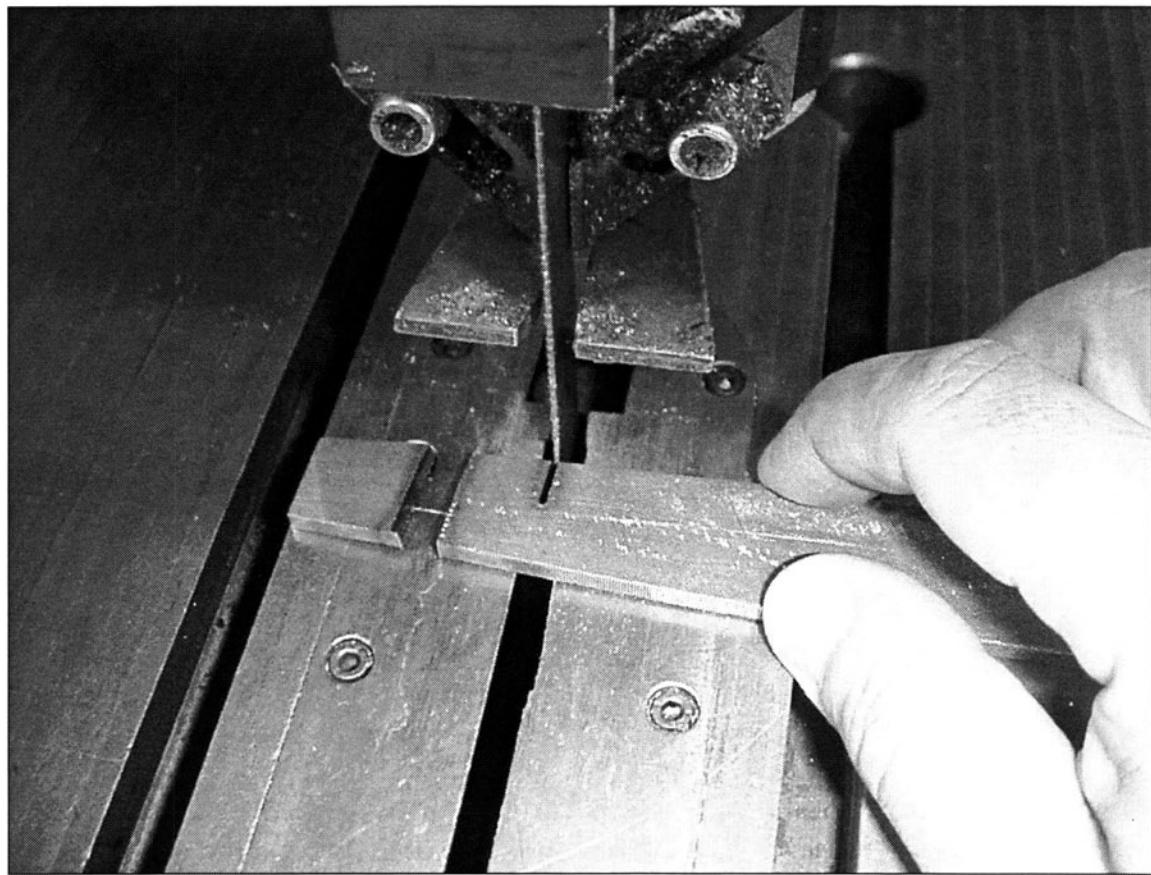

FIGURE 18-3 A file is friction sawed in two using a worn out blade in a vertical bandsaw.
30. *Can you cut a file with a band saw? (See Fig. 18-3)*